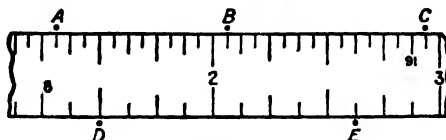

Fig. 3-6.
NOTE: Figures 3-6, 3-8, and 3-9 do not show the entire length of the rule. When reading, include in your answer that part of the rule not shown.
2. What are the readings in Fig. 3-6 at points A, B, C, D, and E?